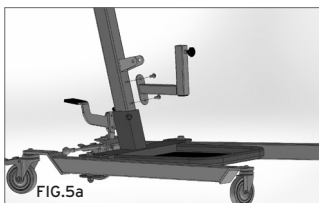

FIG.5a
7. Position and Fix the knee support structure on the column with the provided screws; then fit the knee supports, adjusting their height by the provided knob (Fig. 5a-5b)